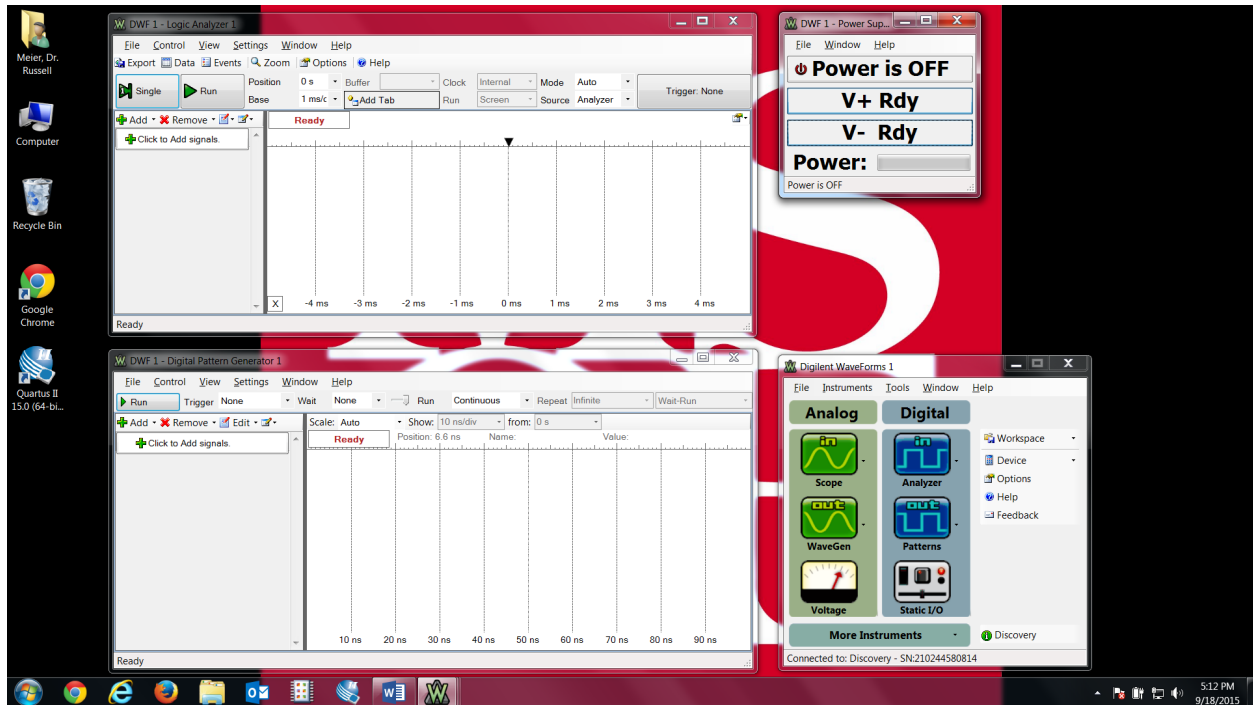

Figure 5: Waveforms with Visible Logic Analyzer, Voltage, and Pattern Generator Instruments
2. **Push** the buttons for voltage (power supply), patterns, and analyzer. **Organize** your instrument control panels so that they appear on screen as shown in Figure 5. The instruments in Figure 5 clockwise from upper left are: logic analyzer, power supply, instrument panel, and pattern generator.